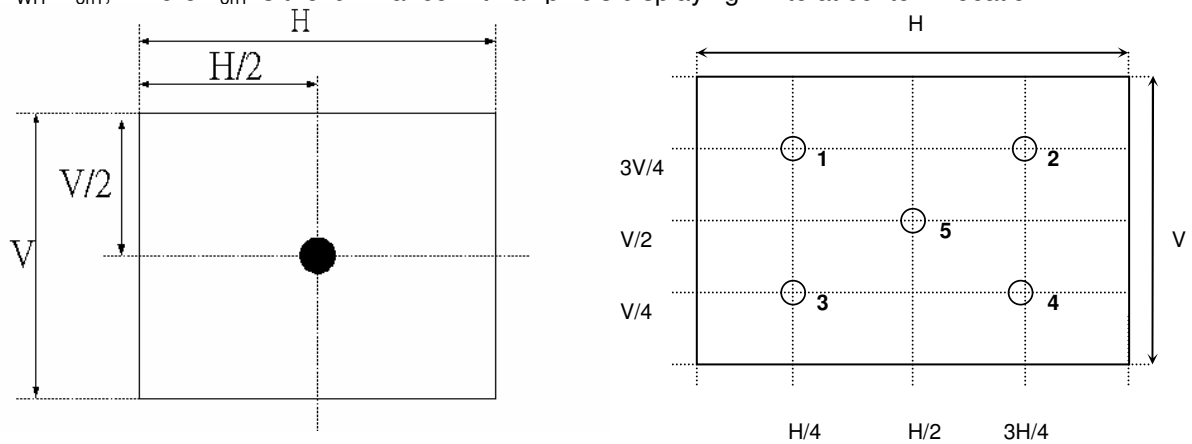

Fig.4-2 Optical measurement point
2. Surface luminance is luminance value at point 1 across the LCD surface 50cm from the surface with all pixels displaying white. From more information see Fig. 4-2. When $V_{DDB} = 24V$, $I_{DDB} = 7.3A$.